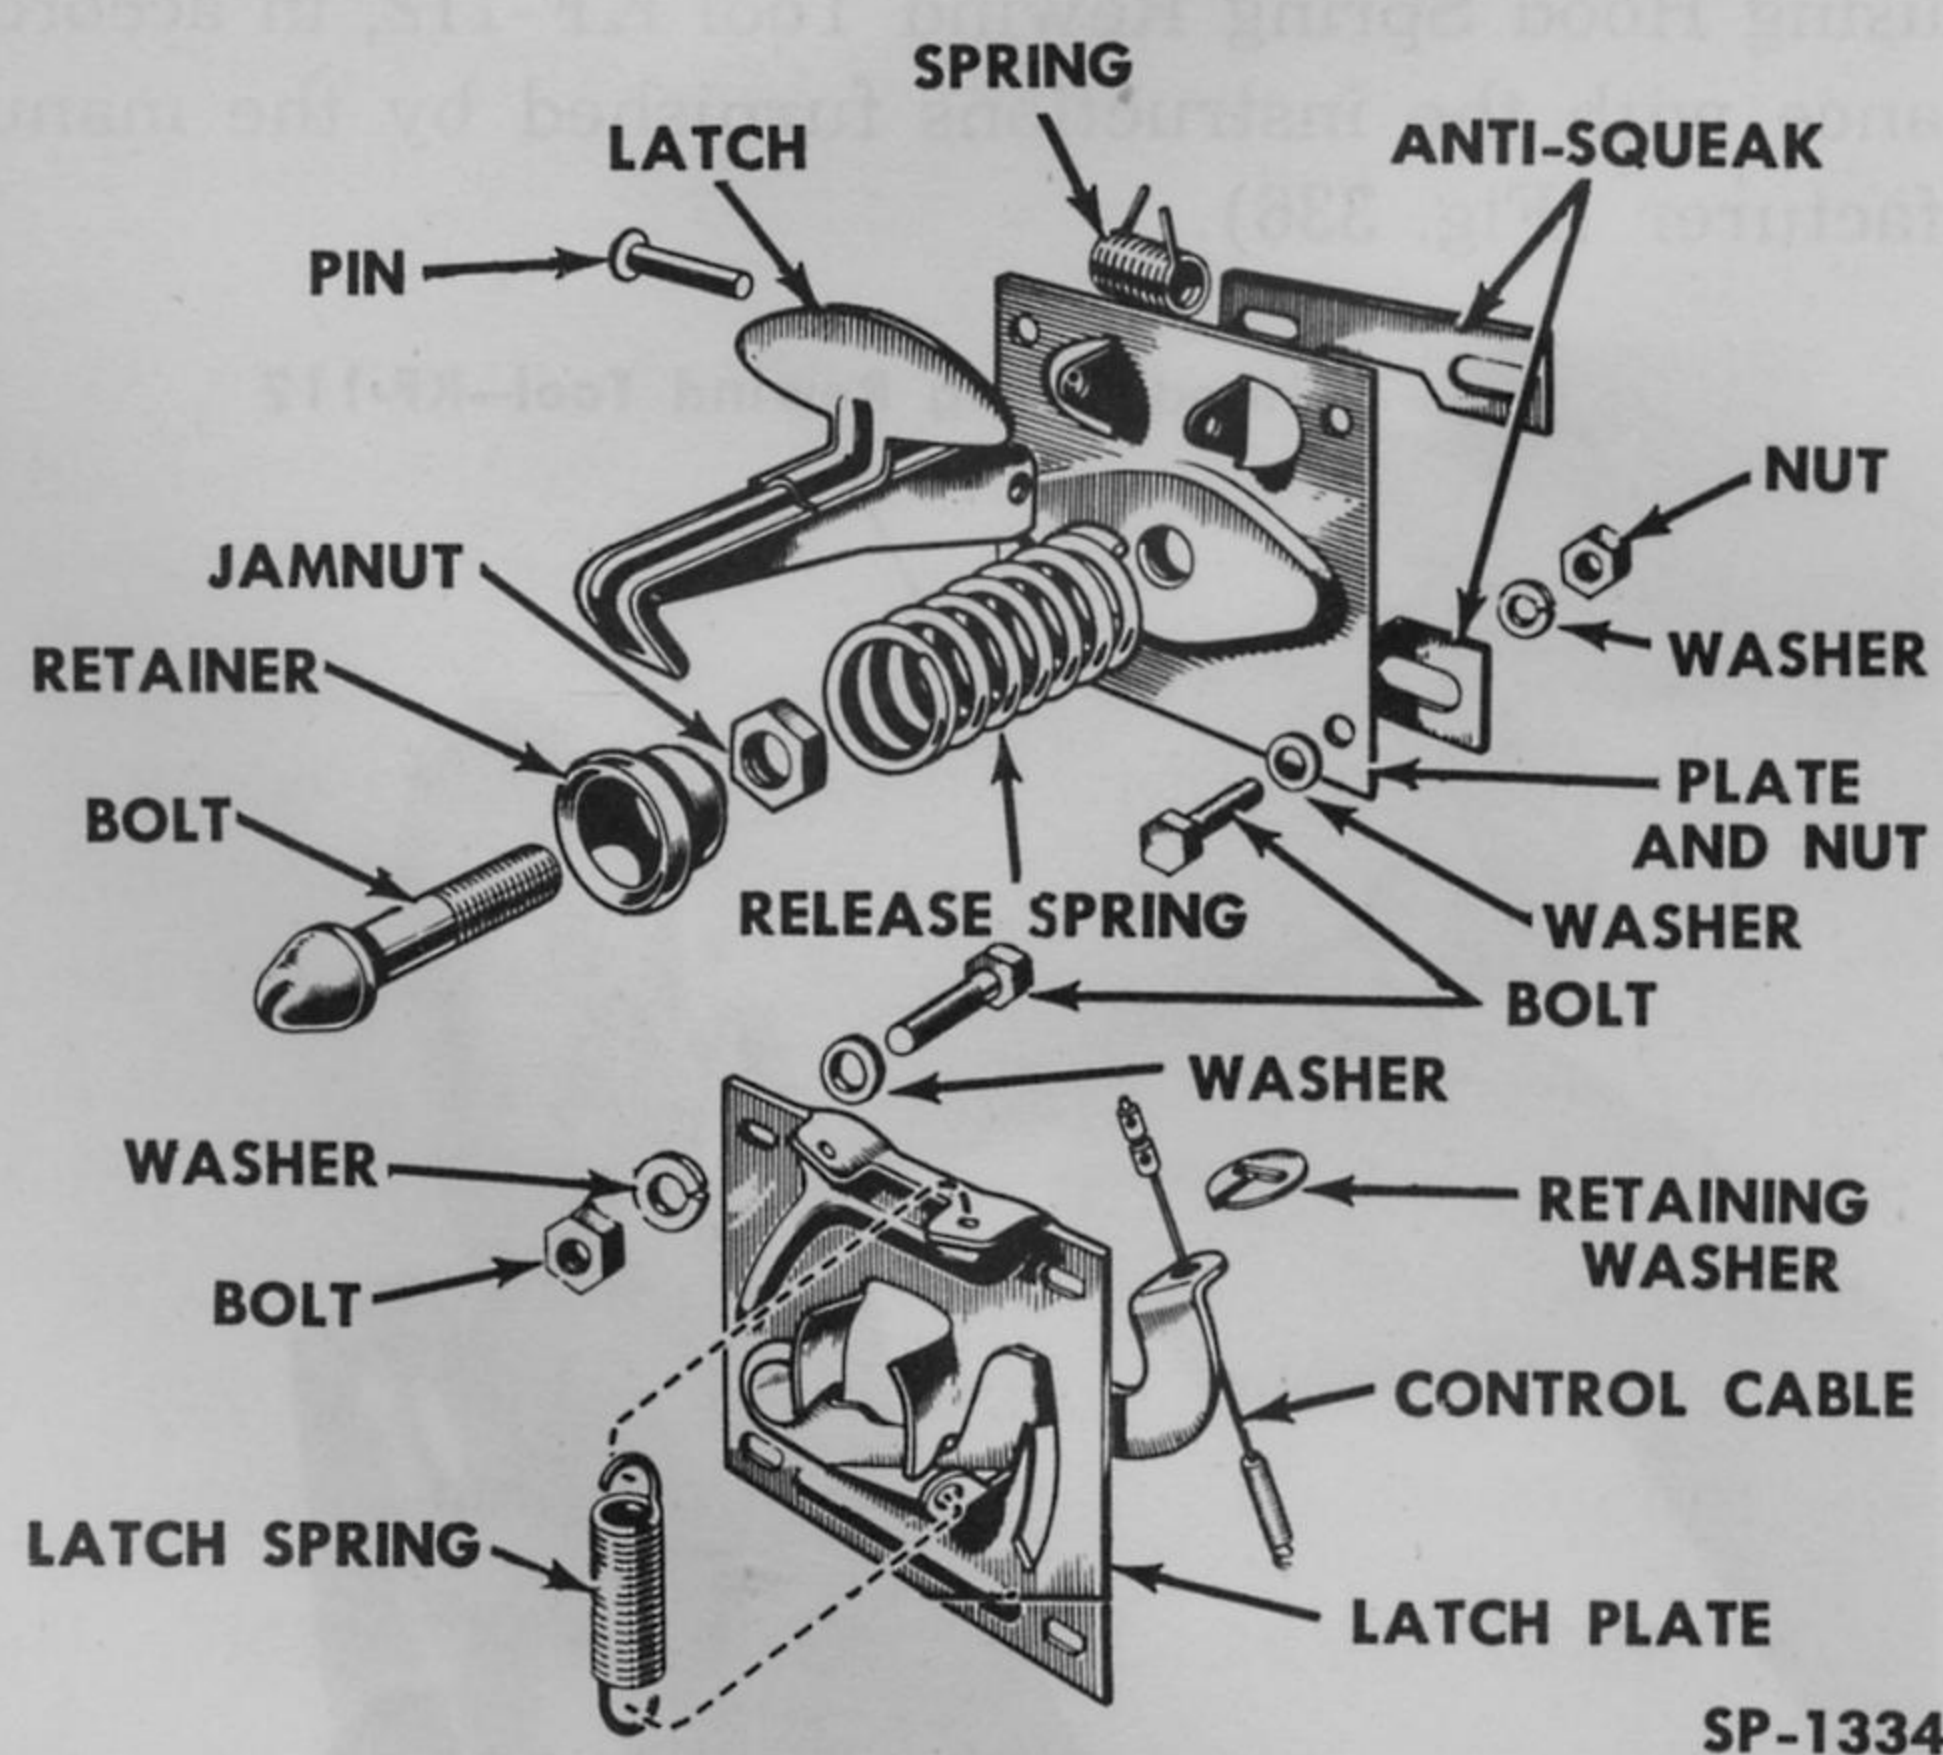

Fig. 333—Hood Lock and Cable—Exploded View
**1. Hood Lock Replacement** (Fig. 333). Disconnect the control cable at the lock arm, remove the lock plate mounting bolts, nuts and washers, and lift out the lock. The hood safety lock mounted on the hood
**2. Hood Lock Adjustment** (Fig. 333). The hood latching mechanism is adjustable at the hood lock